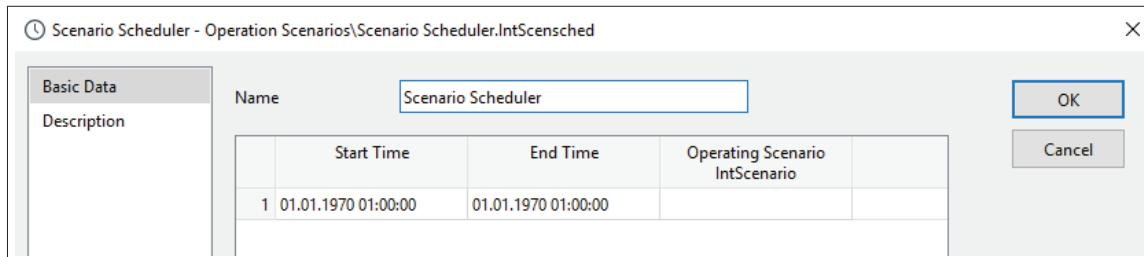

Figure 16.5.1: The Scenario Scheduler (IntScensched) dialog
4. Press **OK**. The scenario scheduler object dialog will appear as shown in Figure 16.5.1. Give the scheduler a name.